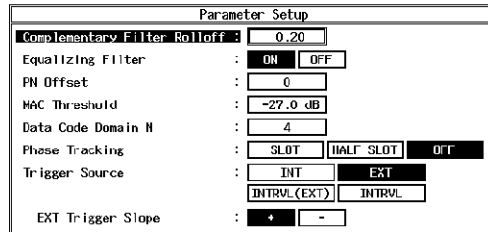

Figure 6-3 Measurement Parameters for Code Domain (RF Input) (Forward Link)
5. Set up the R3267 series equipment for 870.03 MHz center frequency and RF input signal measurement. Set parameters as shown in Figure 6-3 and execute **DC CAL** and **AUTO LEVEL**.